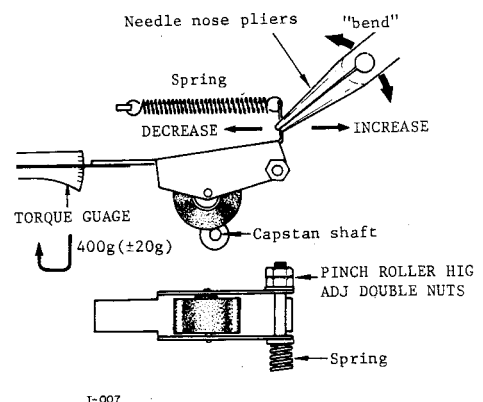

Fig. 6-1 Pinch Roller Pressure
1. Attach a torque guage to the Pinch Roller Assembly as shown in Fig.6-1.
4. If the reading is incorrect, adjust as shown in Fig.6-1. The double nuts provide course adjustment.